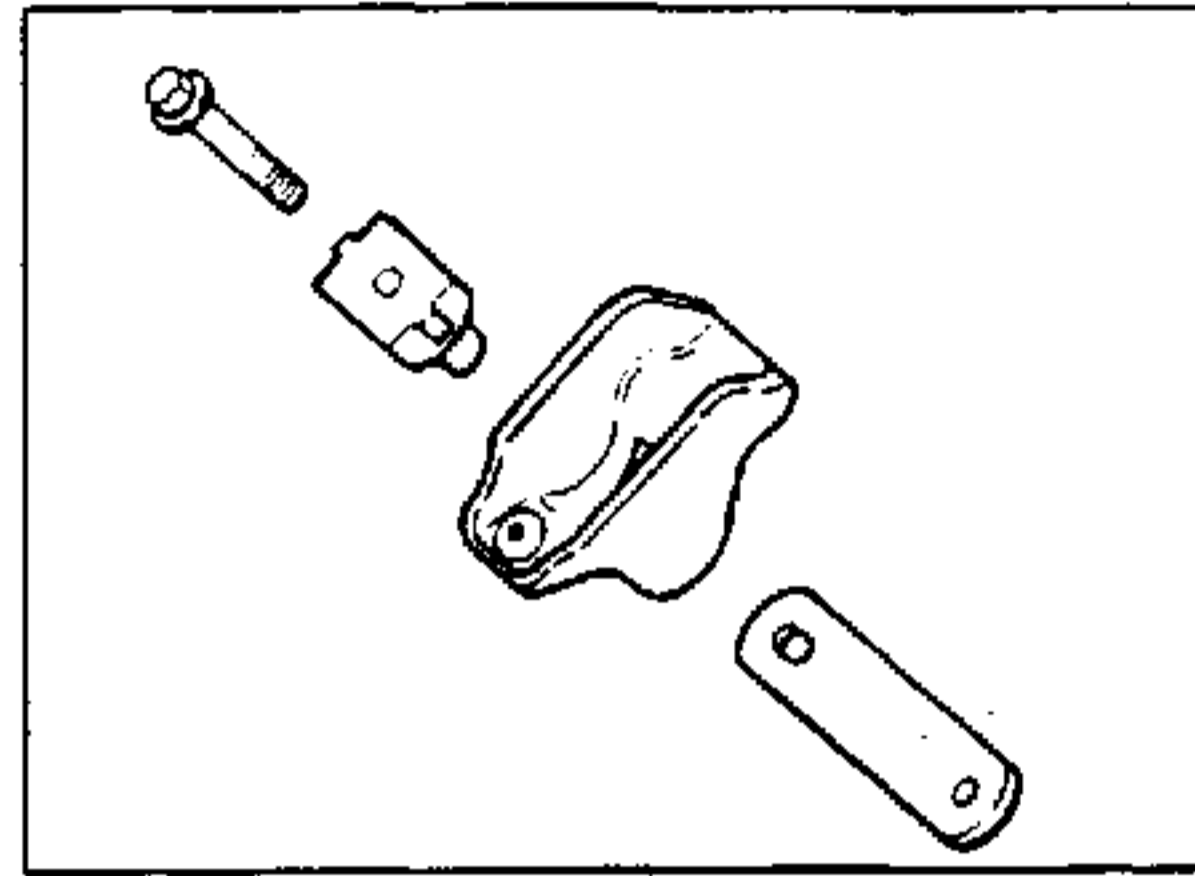

Figure 2. Latest Design Rocker Arm Components.
7. Position the new pivots in the sockets of the new rocker arms. Insert the screws, retained in Step 6, through the pivots, rocker arms, and spacer bar (see Figure 2), and start them into the head. Align the rocker arms over the valve stems and push rods and torque the screws to 124 in. lbs.